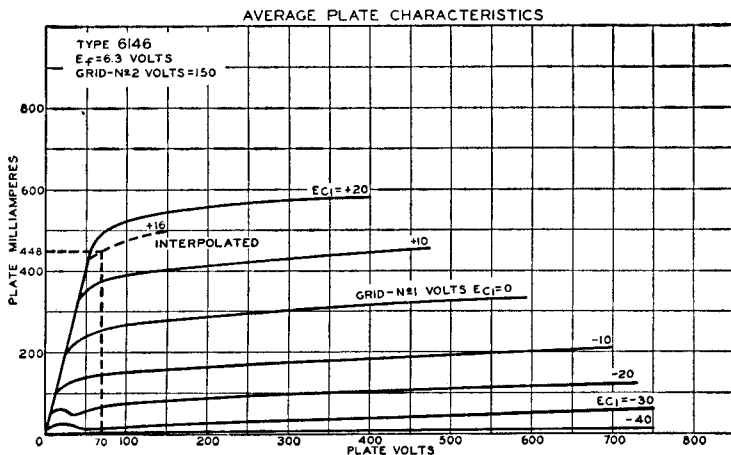

Fig. 44
(3) From the plate family for the 6146 given in Fig. 44 ($E_{c2}=150$ volts), a suitable value for effective minimum plate voltage ($e_{b\min}$) to the right of the "knee" is 70 volts. The corresponding peak positive grid-No.1 voltage ($e_{c1\max}$, determined from E_{c1} curves) for a peak plate current of 448 milliamperes is approximately +16 volts.
(4) From Table I, K_2 for a conduction angle of 140 degrees is 0.862. Therefore, power output (P_o) = 0.862 \times (600-70) \times 0.112 = 51 watts.
(5) Plate dissipation (P_p) = (600 \times 0.112) - 51 = 16.2 watts. This value is well within the maximum plate-dissipation rating of the 6146 for class C telegraphy under CCS conditions (20 watts).
(6) The dc grid-No.1 or bias voltage (E_{c1}) and peak rf grid-No.1 voltage (E_{g1}) are calculated next. (Note that bias voltage E_{c1} is not the E_{c1} shown in the characteristics curves, which represents total grid voltage, *i.e.*, the algebraic sum of the bias E_{c1} and peak rf grid-No.1 voltage $e_{c1\max}$). From table I, K_3 and K_4 for a conduction angle of 140 degrees are, respectively, 0.520 and 1.520. From the technical data for the 6146, mu-factor (μ_{g2g1}) is 4.5. Therefore,